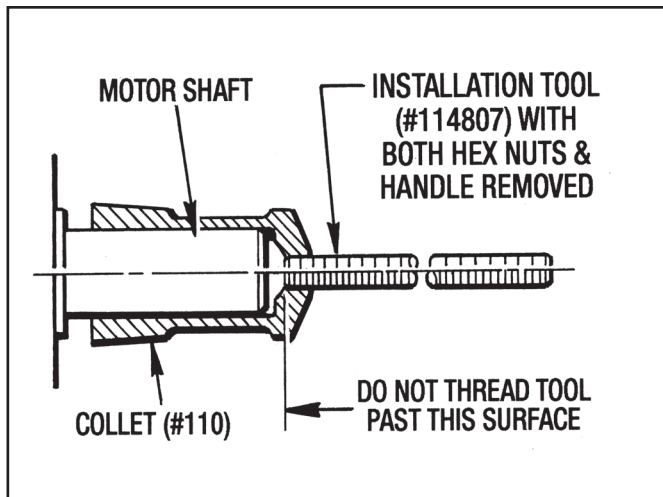

Figure 3.3 - Installing Collet on Motor Shaft
- Thread the **Special Installation Tool #114807** into the Collet (#110) and place the collet all the way on the motor shaft. (See Figure 3.3)
**Only thread the tool to thread hole depth into the collet as shown in Figure 3.3.**